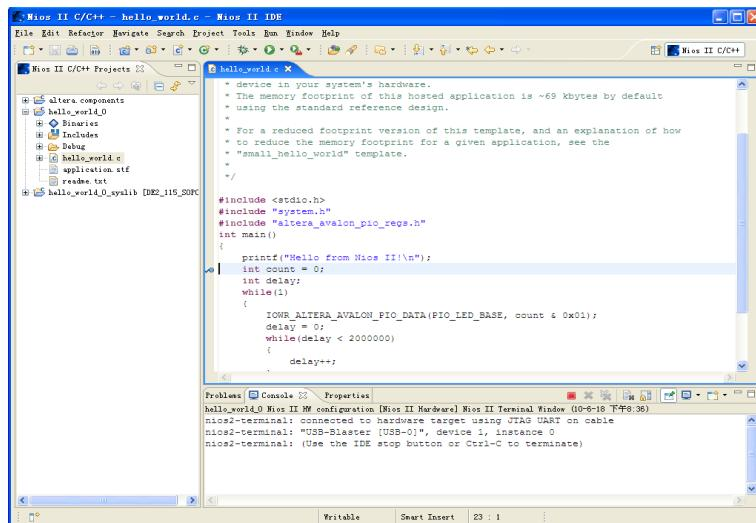

Figure 7-60 Set Breakpoint
1. In the **hello_world.c**, double-click the front of the line where you would like to set breakpoint, as shown in Figure 7-60.